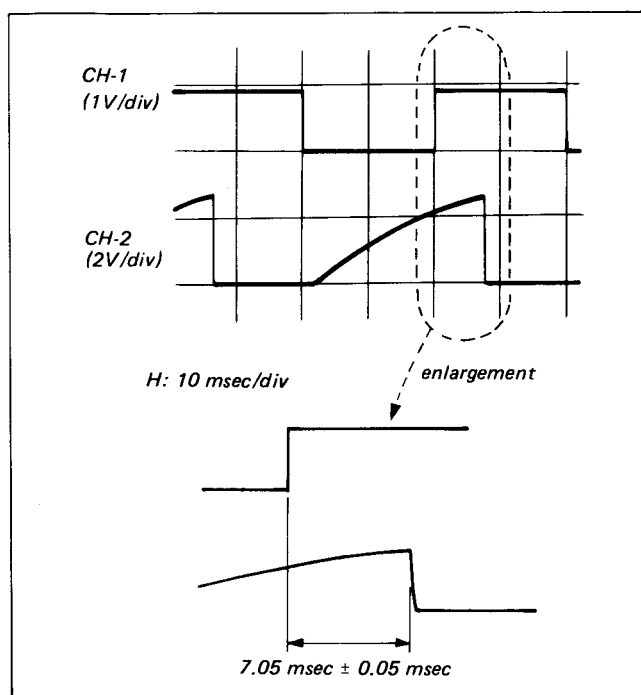

Fig. 5-11. Tracking center adjustment
- ii) Adjust to $7.05 \text{ msec} \pm 0.05 \text{ msec}$ with RV304. (See Fig. 5-11.)